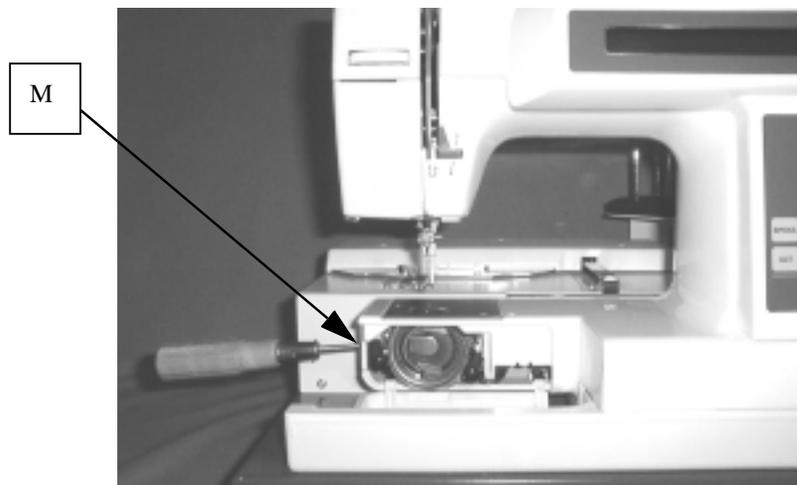

FIGURE 2-7
8. Loosen socket screw(M) shown in Fig.2-7.